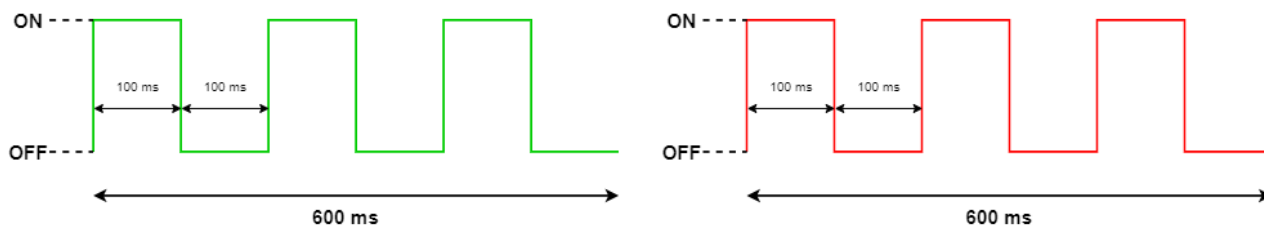

Figure 2-2: The **GREEN** POST Pass (left) and **RED** POST Failure (right) LED Patterns
- a. If the POST passes, **GREEN** is toggled ON and OFF 3 times: every 100 ms for 0.6 s, as shown in Figure 2-2. In this case, the LED pattern proceeds to step 4.
- b. If the POST fails, **RED** is toggled ON and OFF 3 times: every 100 ms for 0.6 s, as shown in Figure 2-2. In this case, the device restarts and the LED pattern begins again at step 1 after approximately 4 s.